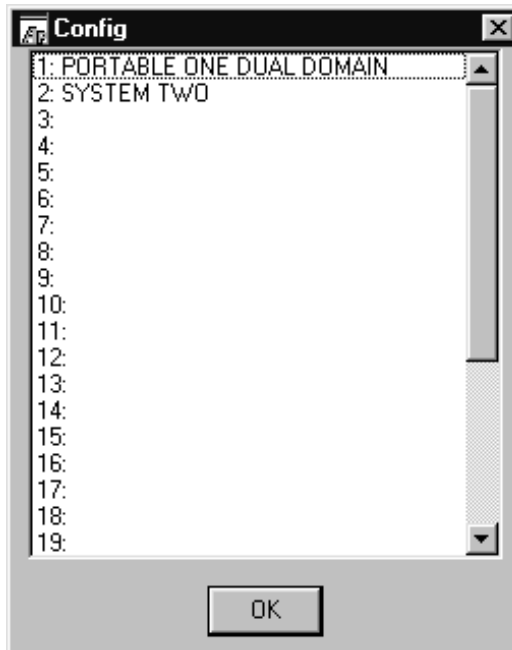

Figure 3-3. Config panel (typical)
- **Config** – Select the instrument/GPIB address for which a panel will be displayed. See Figure 3-3 for a typical display.